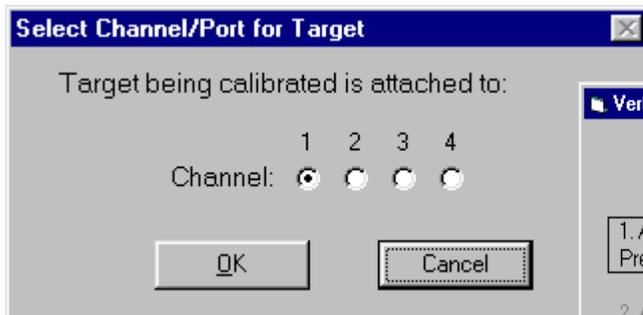
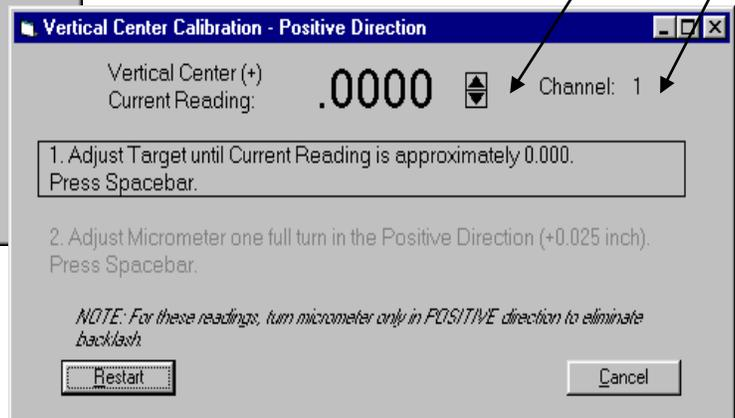

Figure 20 – Channel/Port Selection Screen
Figure 21 – Calibration Screen
The Select Channel/Port for Target menu displays (see Figure 20). Select the channel or the port to which the target is attached and click **OK**. The Calibration Screen displays and indicates the Port or Channel selected (see right arrow in Figure 21).
- *The double arrows next to the reading are visible only in Manual Data mode and are not available when actual targets are being read (see left arrow in Figure 21).*
- 1. For the first reading, (in this case V+), center the target using the centering micrometer. This corresponds to Step 1 on the Calibration Screen (see Figure 21).**
1. **For the first reading, (in this case V+), center the target using the centering micrometer. This corresponds to Step 1 on the Calibration Screen (see Figure 21).**